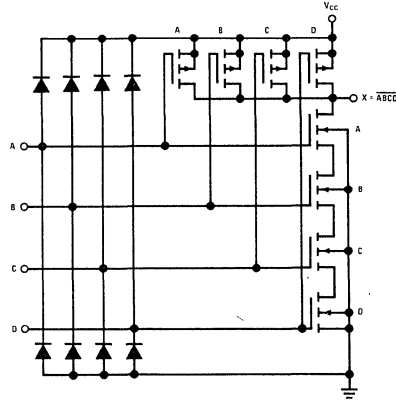

FIGURE 3-1. MM74C20 Four Input NAND Gate.
**Unused inputs:** simply stated, unused inputs should not be left open. Because of the very high impedance ( $\sim 10^{12}\Omega$ ), a floating input may drift back and forth between a "0" and "1" creating some very intriguing system problems. All unused inputs should be tied to  $V_{CC}$ , Ground or another used input. The choice is not completely arbitrary, however, since there will be an effect on the output drive capability of the circuit in question. Take, for example, a four input NAND gate being used as a two input gate. The internal structure is shown in Figure 3-1. Let inputs A & B be the unused inputs.
**Parallel gates:** depending on the type of gate, tying inputs together guarantees an increase in either source or sink current but not both. To guarantee an increase in both currents, a number of gates must be paralleled as in Figure 3-2. This insures that there are a number of parallel combinations of the series string of transistors (Figure 3-1), thereby increasing drive in that direction also.